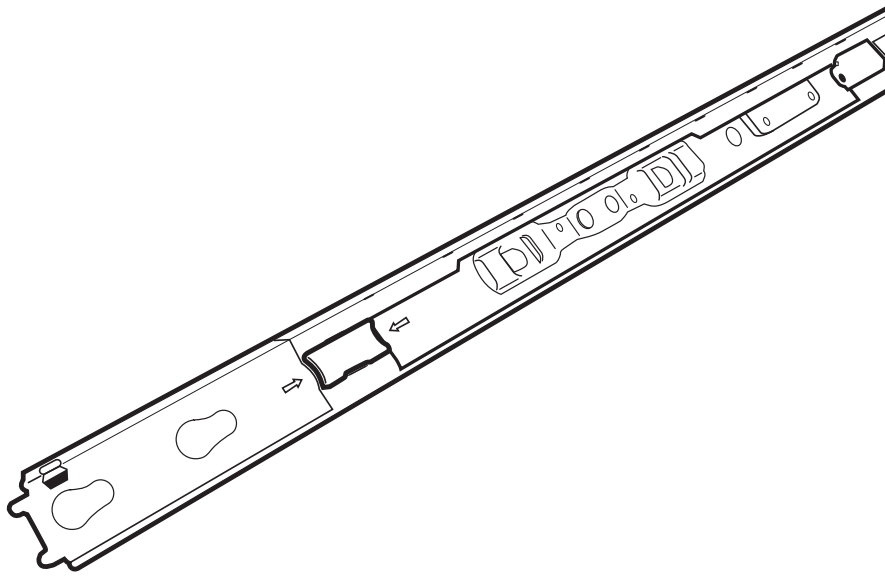

Figure 2.4 Detailed View of the Slider Rail Release Mechanism
3. Extend both sliding rails. See figure 2.4 on page 16.